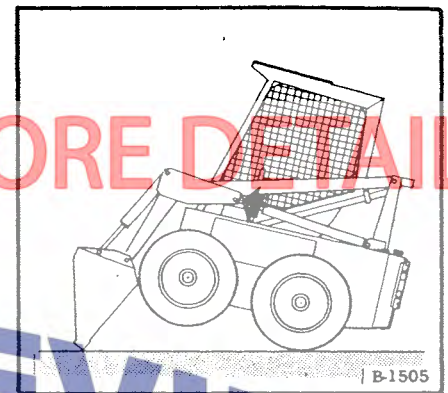

Fig. 59 Checking for Leaks (Lift Circuit)
2. Lift Cylinders: Raise the front of the machine off the ground by tilting the bucket down (Figure 59). If the lift arms will not support the machine (bucket remains tilted, but machine settles due to movement of the shaft in the cylinders), a piston seal in one or both of the cylinders is leaking or the cylinder bore is scored and should be repaired or replaced.